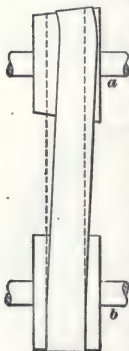

FIG. 13.
**11. Crowning Pulley Faces.**—In Fig. 13, suppose the shafts *a* and *b* to be parallel. Let the pulley on the shaft *a* be cone-shaped, as shown. The right-hand side of the belt will be pulled ahead more rapidly than the left-hand side, because of the greater diameter and, consequently, greater speed of the right-hand end of the pulley. It has been observed that in this case the belt will leave its normal position, which is indicated by the dotted lines, and climb toward the part of the pulley that has the largest diameter, as shown in the illustration. This tendency of the belt to climb toward the high side is taken advantage of to make the belt stay on a pulley. Suppose the pulley on the shaft *a* is replaced with one formed of two equal cones, with the large diameter in the center. Then, each side of the belt will tend